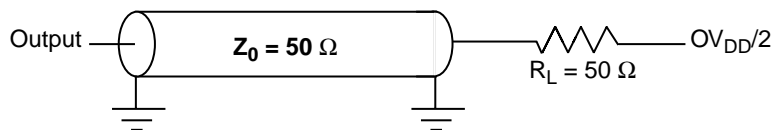
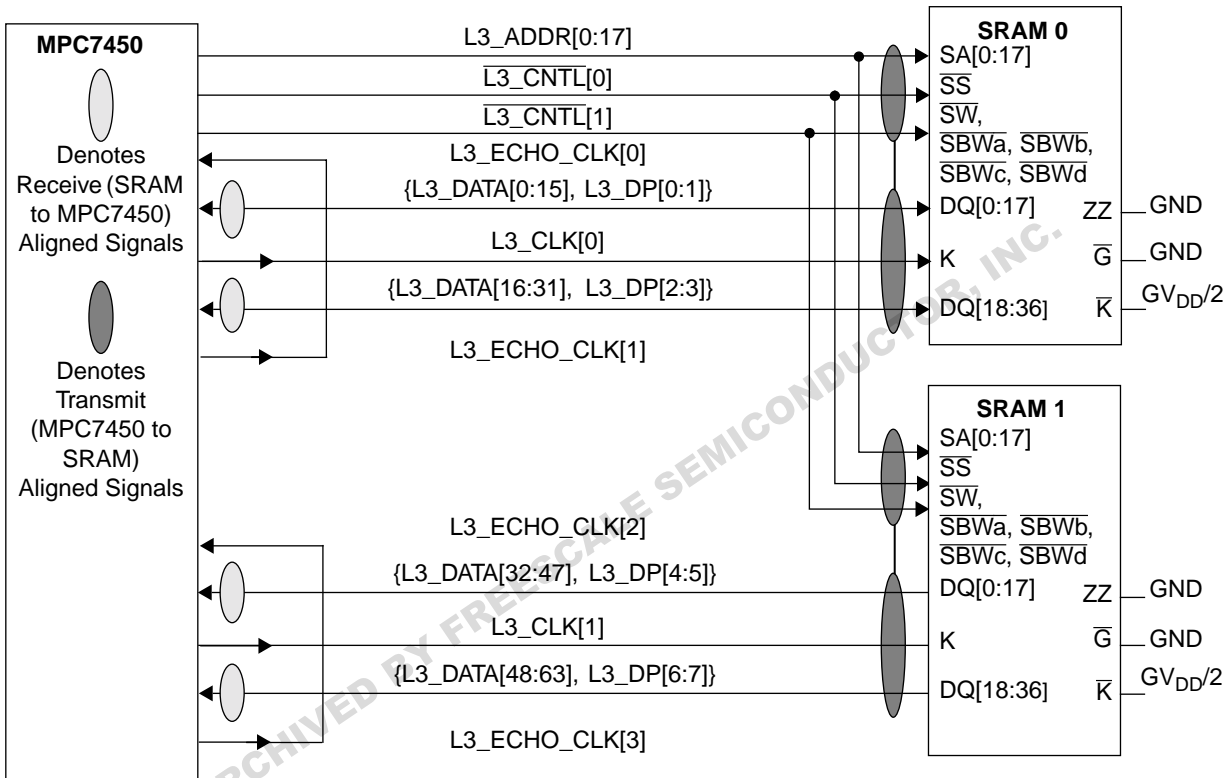
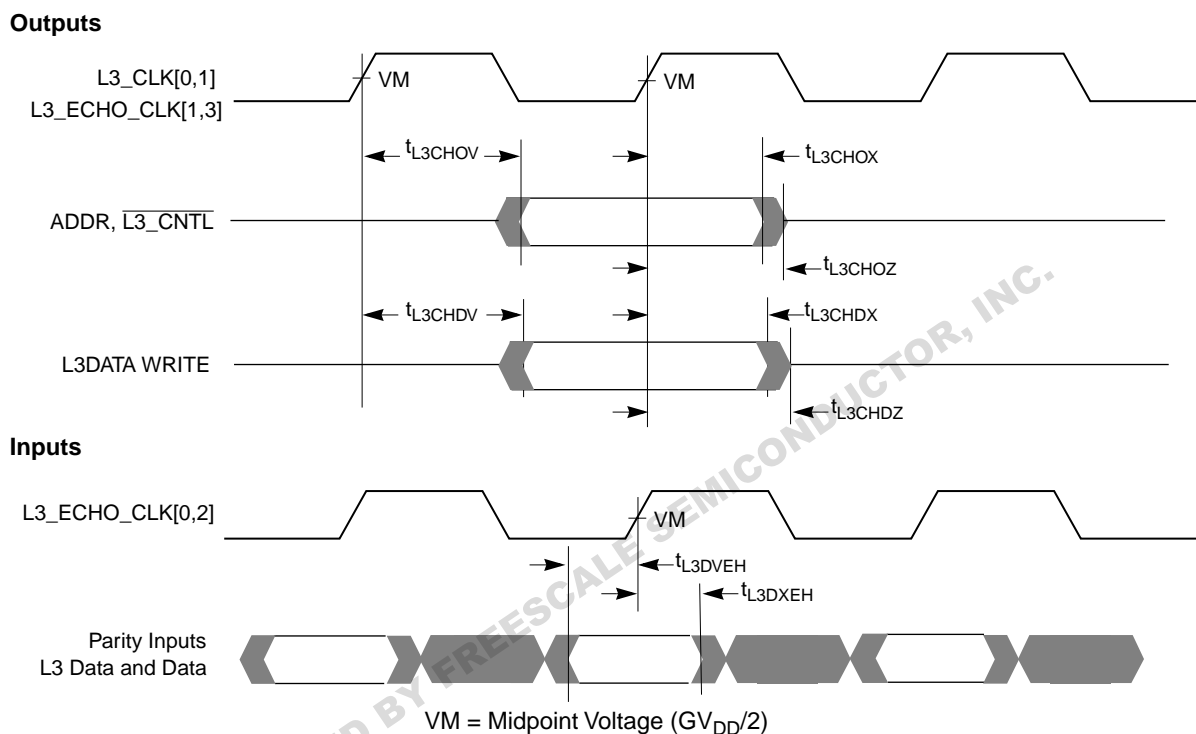

Figure 8. AC Test Load for the L3 Interface
Figure 11. Typical Synchronous 1-MByte L3 Cache Late Write or PB2 Interface
Figure 12. L3 Bus Timing Diagrams for Late Write or PB2 SRAMs
- For high speed operations, L3 interface address and control signals should be a “T” with minimal stubs to the two loads; data and clock signals should be point-to-point to their single load. Figure 8 shows the AC test load for the L3 interface.
More specifically, certain signals within groups should be delay-matched with others in the same group while intergroup routing is less critical. Only the address and control signals are common to both SRAMs and additional timing margin is available for these signals. The double-clocked data signals are grouped with individual clocks as shown in Figure 9 or Figure 11, depending on the type of SRAM. For example, for the MSUG2 DDR SRAM (see Figure 9); L3DATA[0:31], L3DP[0:3], and L3\_CLK[0] form a closely coupled group of outputs from the MPC7450; while L3DATA[0:15], L3DP[0:1], and L3\_ECHO\_CLK[0] form a closely coupled group of inputs.
Table 12 provides the L3 bus interface AC timing specifications for the configuration as shown in Figure 9, assuming the timing relationships shown in Figure 10 and the loading shown in Figure 8.
5. All output specifications are measured from the midpoint voltage of the rising (or for DDR write data, also the falling) edge of L3\_CLK to the midpoint of the signal in question. The output timings are measured at the pins. All output timings assume a purely resistive 50- $\Omega$  load (see Figure 8).
When using PB2 or Late Write SRAMs at the L3 interface, the parts should be connected as shown in Figure 11. These SRAMs are synchronous to the MPC7450; one L3\_CLK $n$  signal is output to each SRAM to latch address, control, and write data. Read data is launched by the SRAM synchronous to the delayed L3\_CLK $n$  signal it received. The MPC7450 needs a copy of that delayed clock which launched the SRAM read data to know when the returning data will be valid. Therefore, L3\_ECHO\_CLK1 and L3\_ECHO\_CLK3 must be routed halfway to the SRAMs and then returned to the MPC7450 inputs L3\_ECHO\_CLK0 and L3\_ECHO\_CLK2 respectively. Thus, L3\_ECHO\_CLK0 and L3\_ECHO\_CLK2 are phase-aligned with the input clock received at the SRAMs. The MPC7450 will latch the incoming data on the rising edge of L3\_ECHO\_CLK0 and L3\_ECHO\_CLK2.
Table 13 provides the L3 bus interface AC timing specifications for the configuration shown in Figure 11, assuming the timing relationships of Figure 12 and the loading of Figure 8.
Figure 11 shows the typical connection diagram for the MPC7450 interfaced to PB2 SRAMs, such as the Motorola MCM63R737, or Late Write SRAMs, such as the Motorola MCM63R836A.
Figure 12 shows the L3 bus timing diagrams for the MPC7450 interfaced to PB2 or Late Write SRAMs.